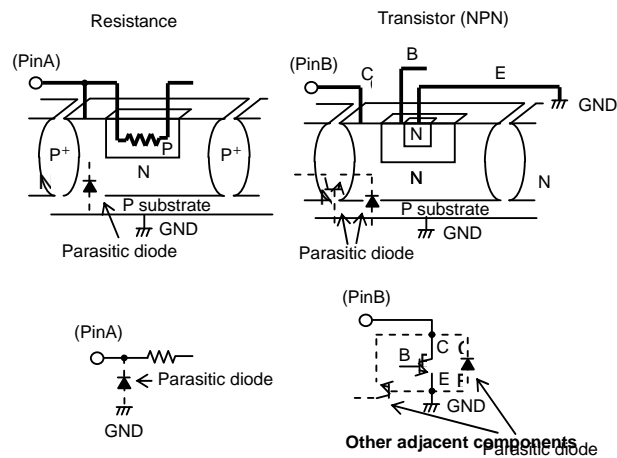

Fig.1 Simplified structure of a Bipolar IC
- This IC is a monolithic IC which (as shown is Fig.1) has P⁺ substrate and between the various pins. A P-N junction is formed from this P layer of each pin. For example, the relation between each potential is as follows,